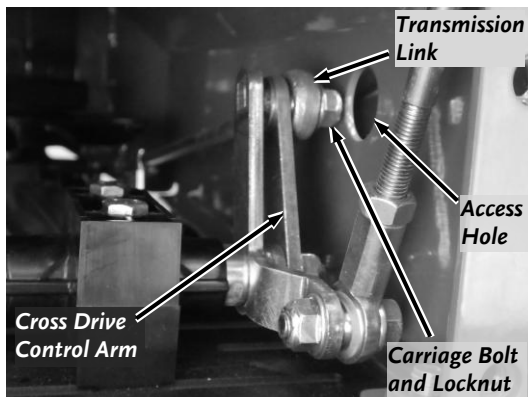

Figure 58
4. Use a 1/2" Socket and Extension to remove the Locknut and Carriage Bolt securing the Transmission Link to the right Control Arm (**Figure 58**).